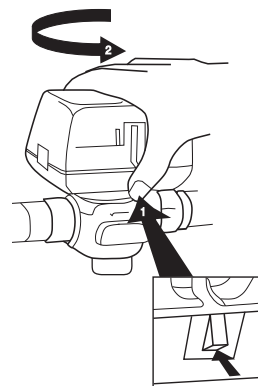

Fig. 7. Lock Mechanism to detach Actuator
1. The actuator head is automatically latched to the valve. Align the coupling hole in the bottom of the actuator with the valve stem. Press the actuator down towards the body with moderate handforce and turn the actuator counter-clockwise by 1/8 turn (45 degrees) to line up the actuator with the piping. The lock will click when engaged (See Figure 7).